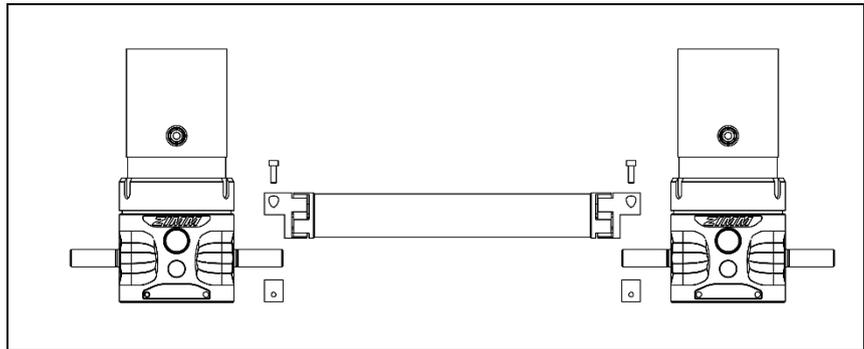

Fig. 9: Installation of connecting shafts
3. Mount the screws for sizes 50 and 100 of the ZA series on the elongated holes with washers (e.g. according to DIN 1441). Mount the spindle head (see Fig. 9), fix the locking screws with screw locking (e.g. Loctite) and mount the lock nut (up to size 100).